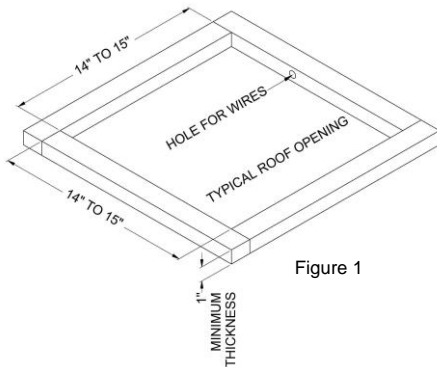

Figure 1
- c. Examine the roof opening. If the opening is smaller than 14 x 14, the opening must be enlarged. If the opening exceeds 15" x 15", a mounting frame must be field fabricated to reduce the opening size (See Figure 1).
2. If a roof vent opening is not used, a new opening (See Figure 1) will have to be cut into the vehicle roof. A matching opening will also have to be cut into the interior vehicle ceiling. If the ceiling opening is carpeted, snagging could occur. After the opening in the roof and interior ceiling are the correct size, a framed support structure must be provided between the exterior roof top and the interior ceiling. The reinforced frame structure must provide the following:
Airxcel, Inc. requires that the spacing from the vehicle roof top to the interior ceiling be no less than 1". A typical support frame is shown in Figure 1. The frame must provide an opening through the frame to allow passage for the power supply wiring. Route the supply wiring through the frame at the same time the support frame is being installed.